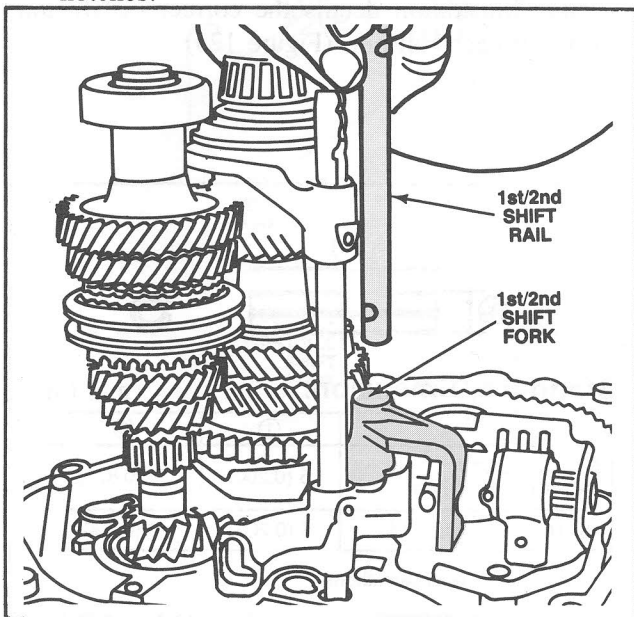

Figure 118 Shift Rail Installation
10. Install the first/second shift rail through the fork and into its bore. (Figure 118).